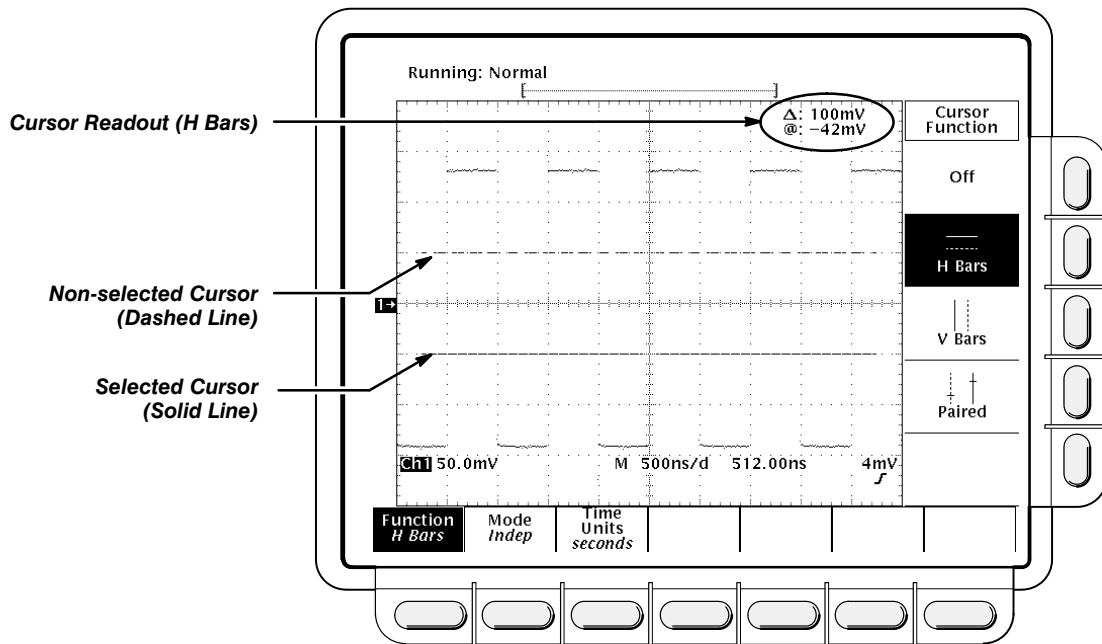

Figure 3-6: H Bars Cursor Menu and Readouts
- **H Bars:** the value after Δ shows the voltage difference between the cursors. The value after @ shows the voltage of the selected cursor relative to ground (see Figure 3-6).